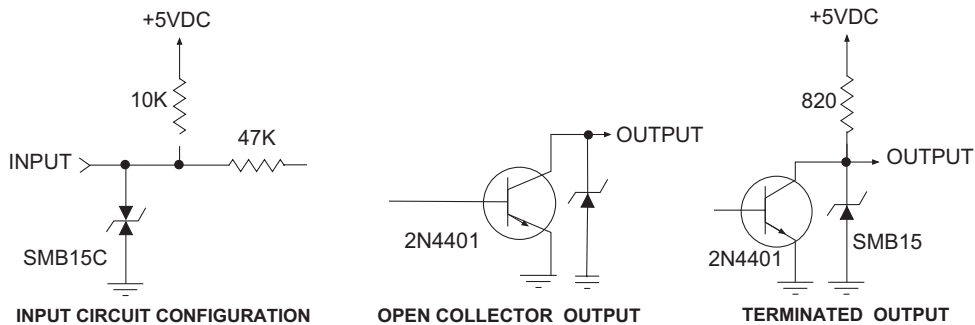

Figure 9 Reader Internal Circuit Typical Input and Output Configurations
- The internal circuit configurations for the reader inputs and outputs are as shown in Figure 9